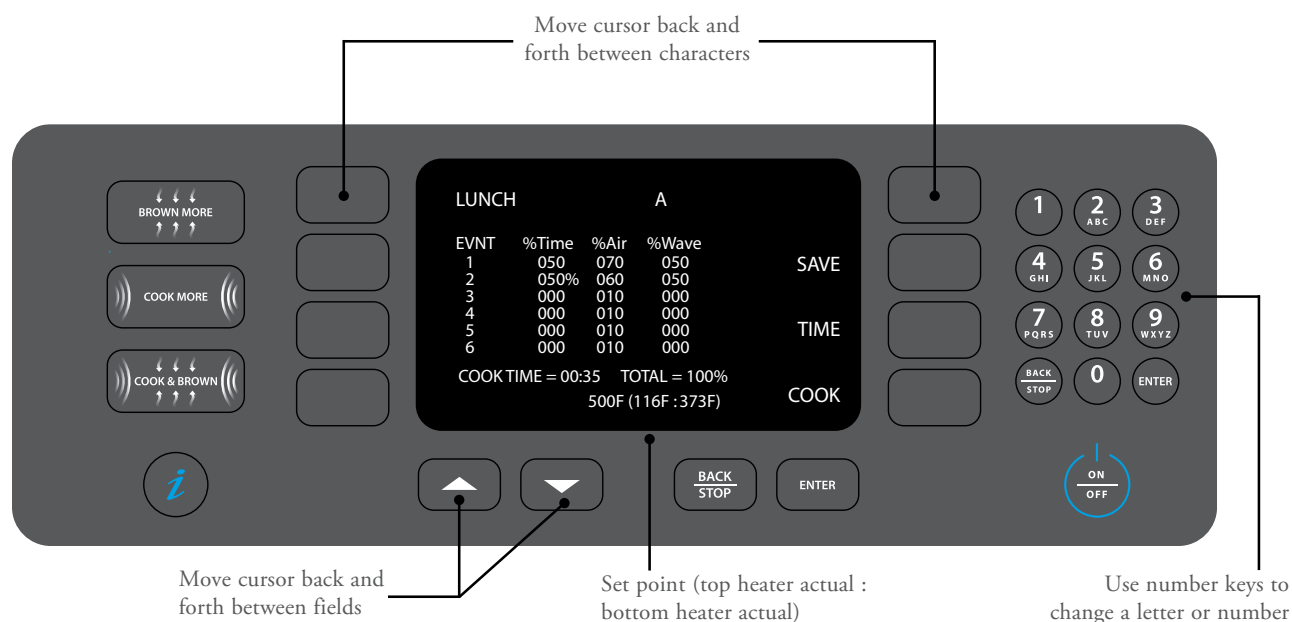

Figure 15: Edit Mode Screen 2: Recipe Edit
Go to the “Recipe Edit” screen (Figure 15) to change the food group name, food item name, and/or cook settings.
- Change the food group or food item name (Figure 15)
- Change the cook settings (Figure 15):